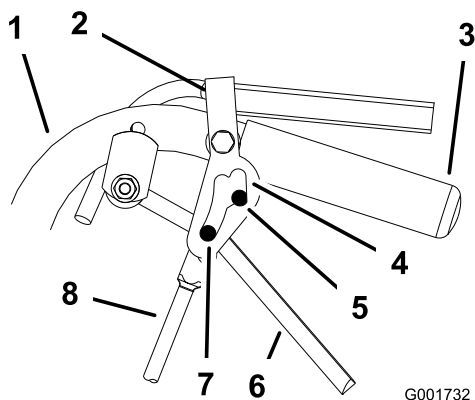

Figure 38
5. Release and engage neutral lock checking that the tyre does not rotate (Figure 38). Continue this process until the tyre does not rotate.